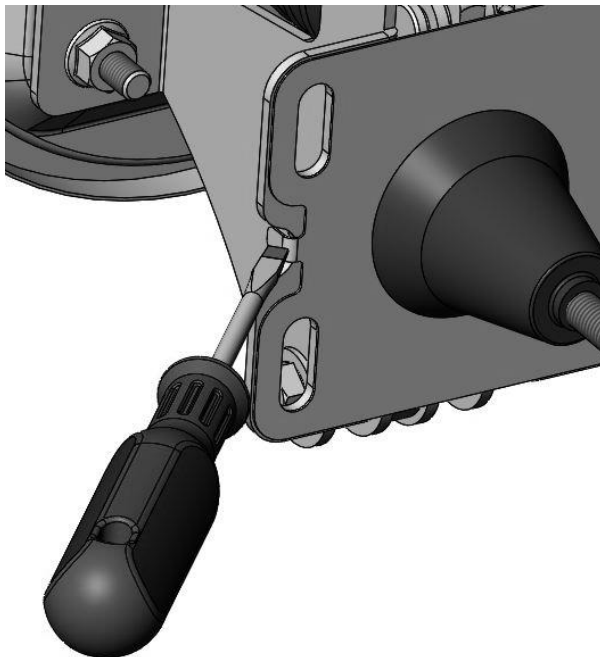
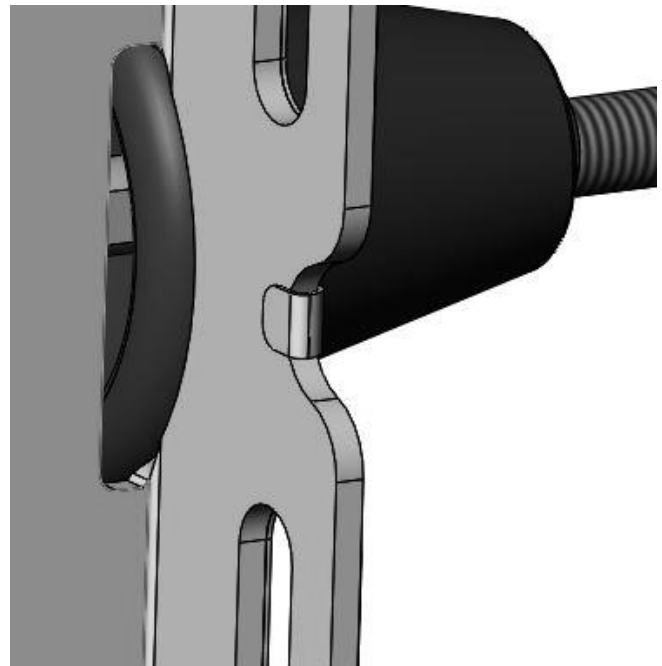

Figure 1a – Folding the Tabs
Figure 1b – Tabs Fully Folded Over
3. Install the pedal push rod boot and plate on the booster mounting bracket. To secure, fold the tabs on the plate onto the brackets as shown in Figure 1a below and fully installed in Figure 1b.